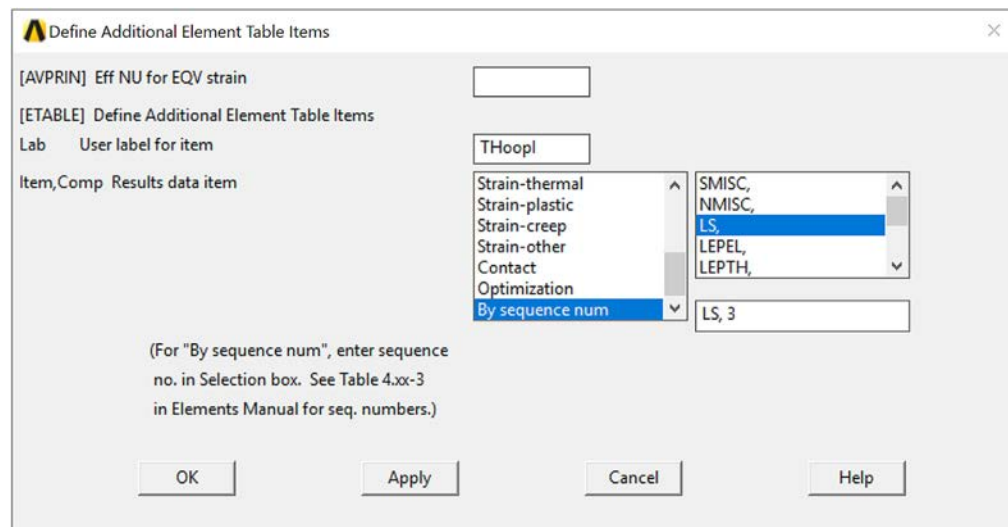

Figure 9-1-11 Define Element Table Items Dialog Box.
- Enter “THoopI” for “Lab User label for item” (Figure 9-1-11)